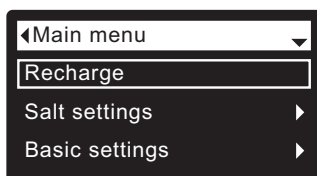

FIG. 33
During normal operation (status screens rolling), press the conditioner/refiner's SELECT (O) button to display the Main menu (See Figure 33). This menu and its subsidiary screens are used to control these operations: